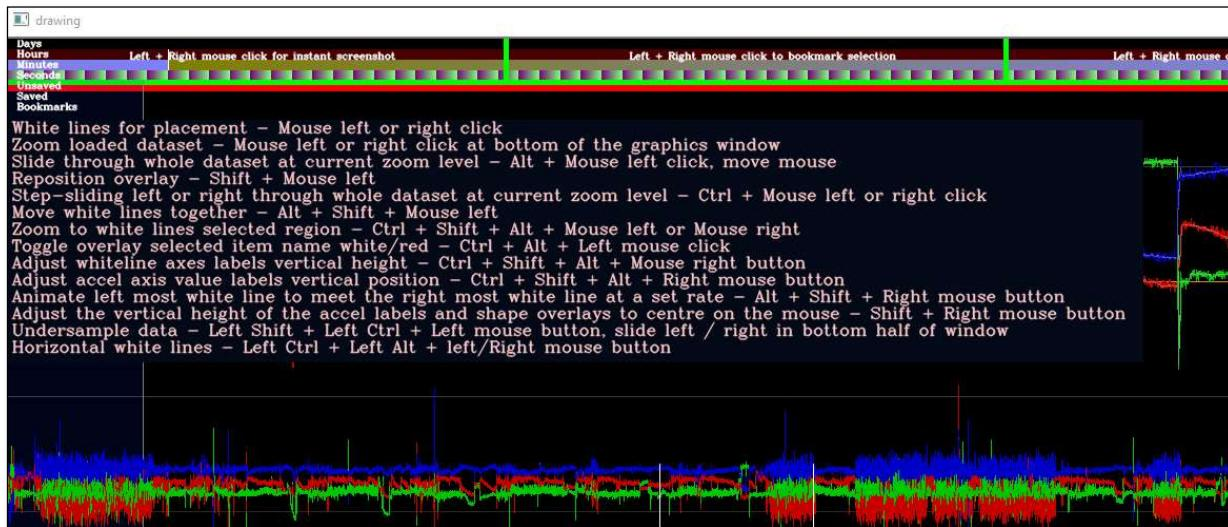

Figure 2.17 Displaying the controls help text
The **View incrementing hours / minutes / seconds** tick-boxes can be selected to create a shaded area behind the data to illustrate the changing time. These synchronise with the top indicator bars. In the example below, **Seconds** has been ticked and each incremental unit of shading from black to green represents one minute (Figure 2.17).
**Display "Help text" on 2D** brings up text in the top left corner of the drawing that describes various mouse/key combinations to navigate through the data (Figure 2.17).